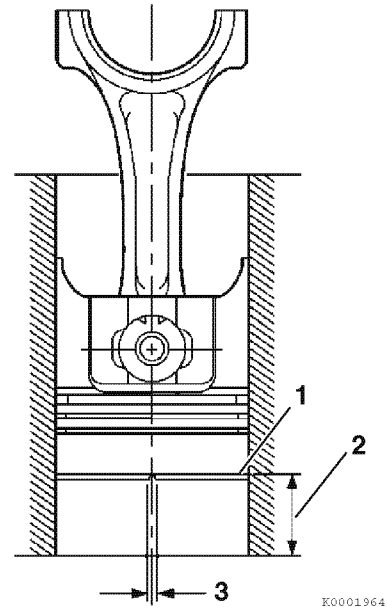

Figure 6-69
10. To measure piston ring end gap, insert each compression piston ring (1, **Figure 6-69**), one at a time, into the cylinder. Use a piston with the piston rings removed to slide the ring into the cylinder bore until it is approximately 1.18 in. (30 mm) (2, **Figure 6-69**) from the bottom of the bore. Remove the piston. Measure the end gap (3, **Figure 6-69**) of each piston ring. Record the measurements. See *Piston Ring* on page 6-8 for specifications.